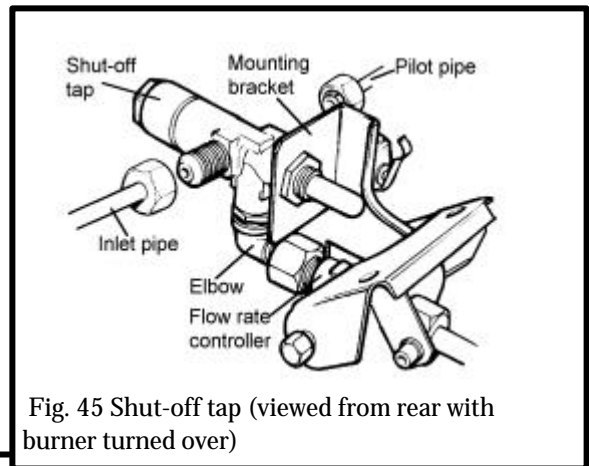

Fig. 45 Shut-off tap (viewed from rear with burner turned over)
13.9 To remove the shut-off tap (see figure 45)